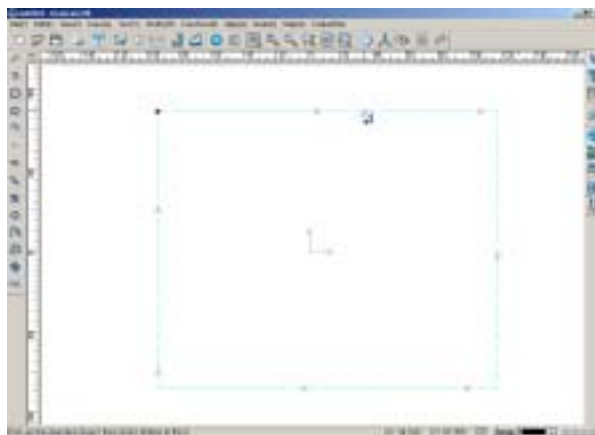

Fig. 6-15
4. The object will turn into dotted lines and its direction is shown. (Fig. 6-15).